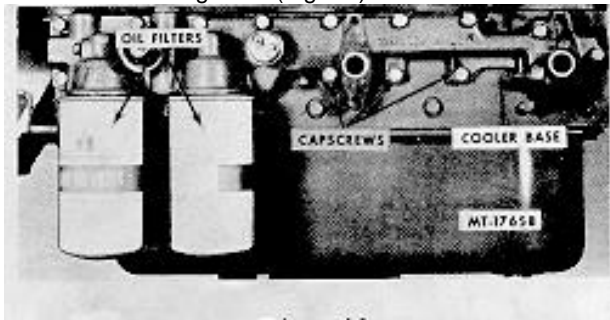

Fig. 40
42. Remove oil filter and cooler base assembly with filter elements, temperature sender, pressure sender and gasket (Fig. 40).